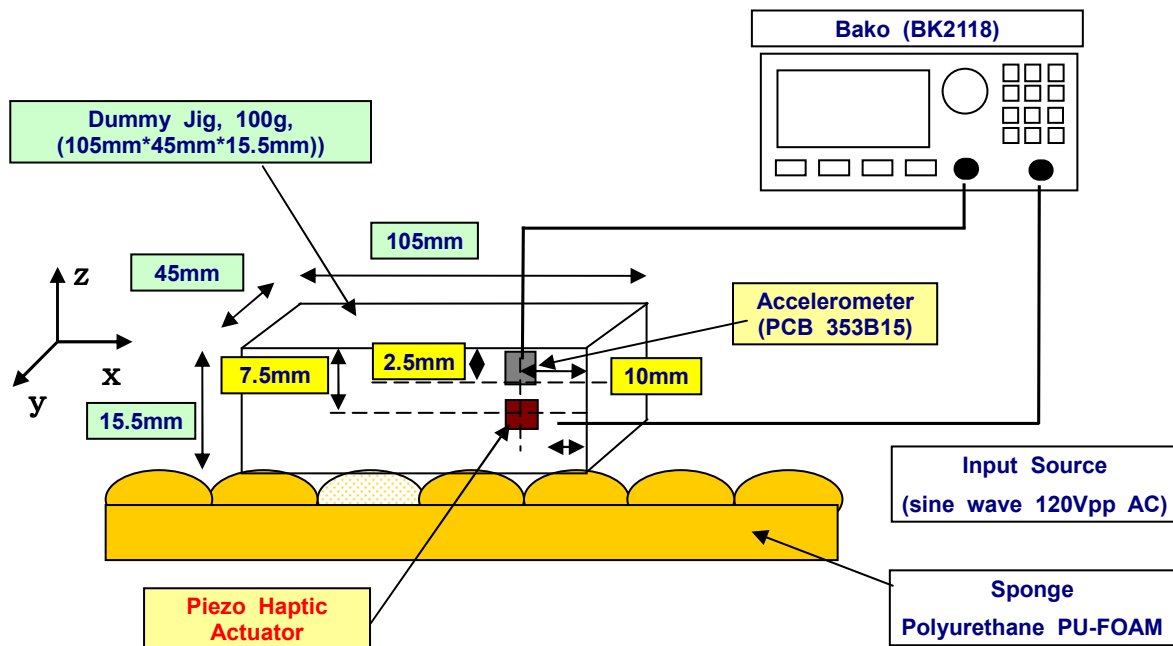

Figure 1. Acceleration Measurement Method of Piezo Haptic Actuator
/ Figure 1. Piezo Haptic Actuator 진동가속도 측정 방법
■ Piezo Haptic Actuator & Accelerometer mounting position (refer to Figure 1)